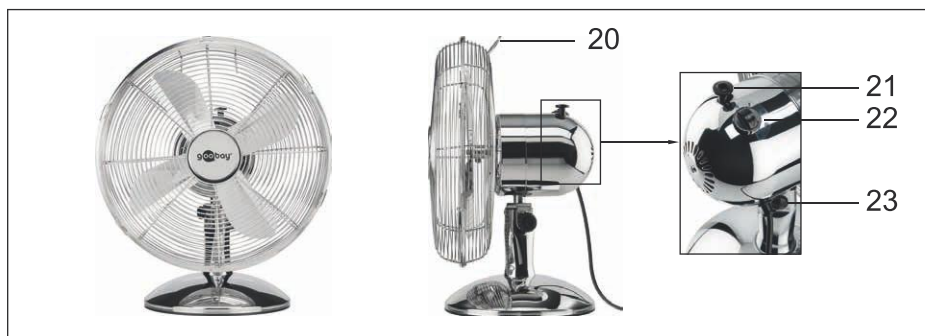

Fig. 15: Ready mounted table fan
1. Hold the fan by the grip (fig. 15, no. 20) and place it on a dust free, stable and horizontal surface.
4. Loosen the tilt adjustment screw (fig. 15, no. 23).
The blower intensity can be adjusted in 3 steps by turning the rotary switch (fig. 15, no. 22):